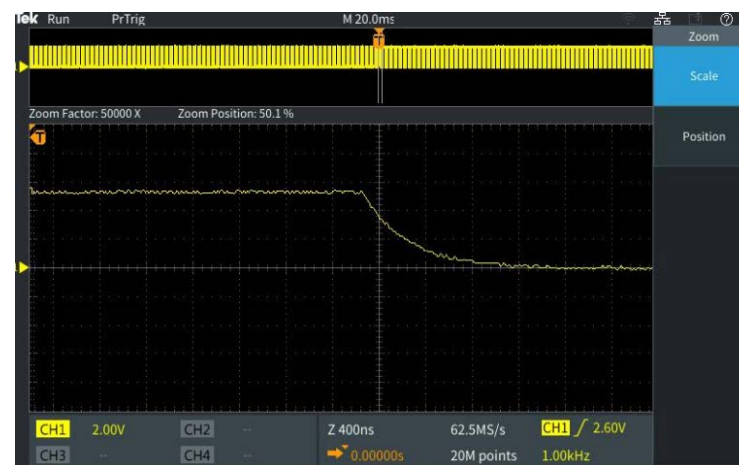

Figure 9. Zooming in on a falling edge
7. Press the **Scale** bezel button, and use the **MPK** to zoom in on the falling edge detail. Adjust position if needed (Figure 9).